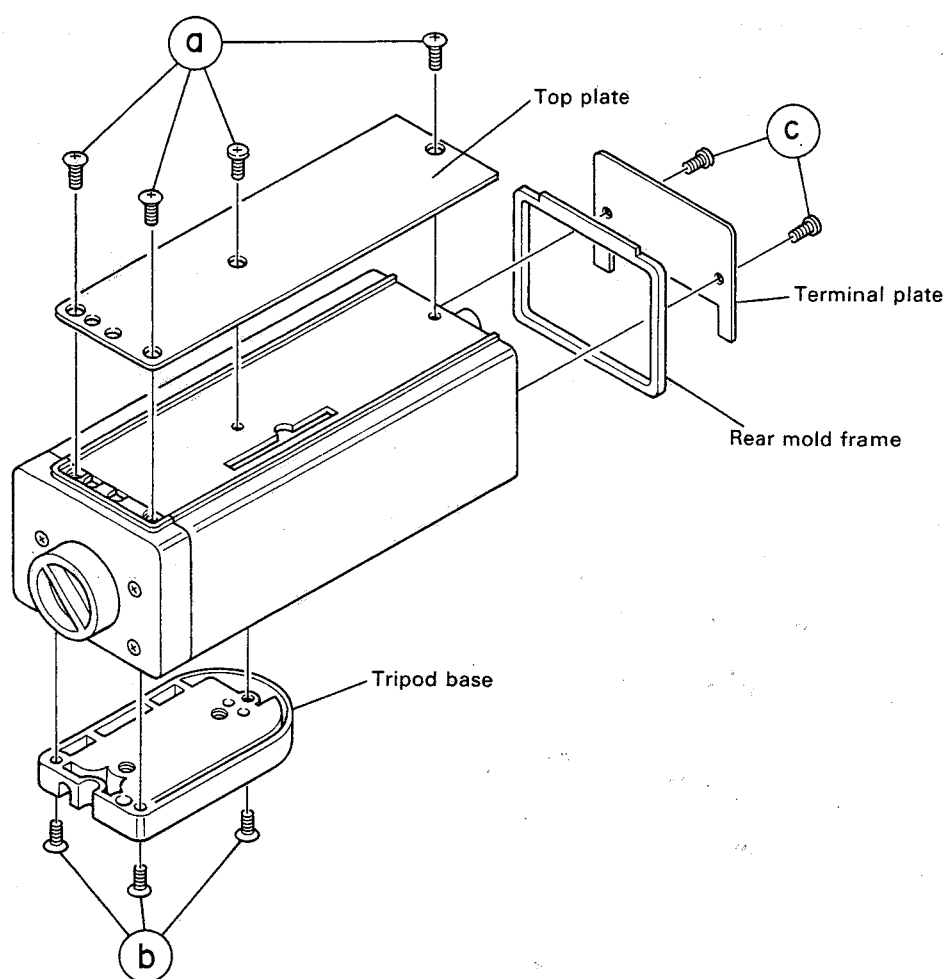

Fig. 1
- (1) Remove the four screws ① shown in Fig. 1 and take out the top cover.
- (1) Remove the three screws ② shown in Fig. 1 and take out the tripod base.
- (1) Remove the two screws ③ shown in Fig. 1 and take out the terminal plate and the rear mold frame.